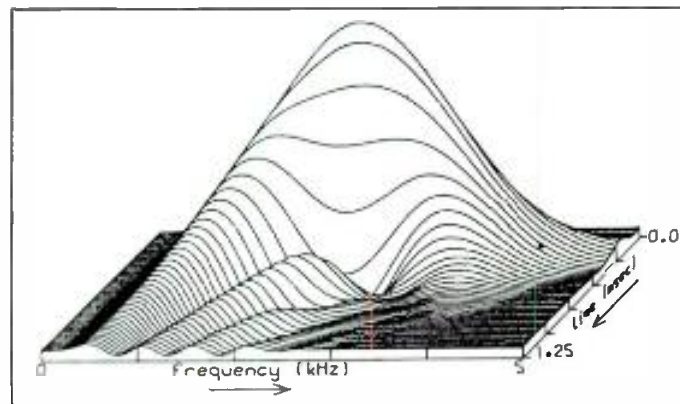

Figure 11. The cumulative spectra display of the response of a bandpass filter. (Philips)
The People at Philips Research Labs in the Netherlands have taken a somewhat different approach. Called “Wigner Distribution,” it uses instrumentation techniques similar to the digital impulse testing method in use at KEF. As Janse and Kaizer (18) report in their paper, “...The Wigner distribution of a signal can be interpreted as a distribution of the signal energy in time and frequency. It is a basic time-frequency distribution...” FIGURES 11 and 12 show the response of a bandpass filter in cumulative spectra form and the Wigner Distribution display contour plot. The top view of the *mountain range* in the Wigner plot shows the effects of phase-shift or time-delay in this filter (about 0.5 msec. at 1 kHz).